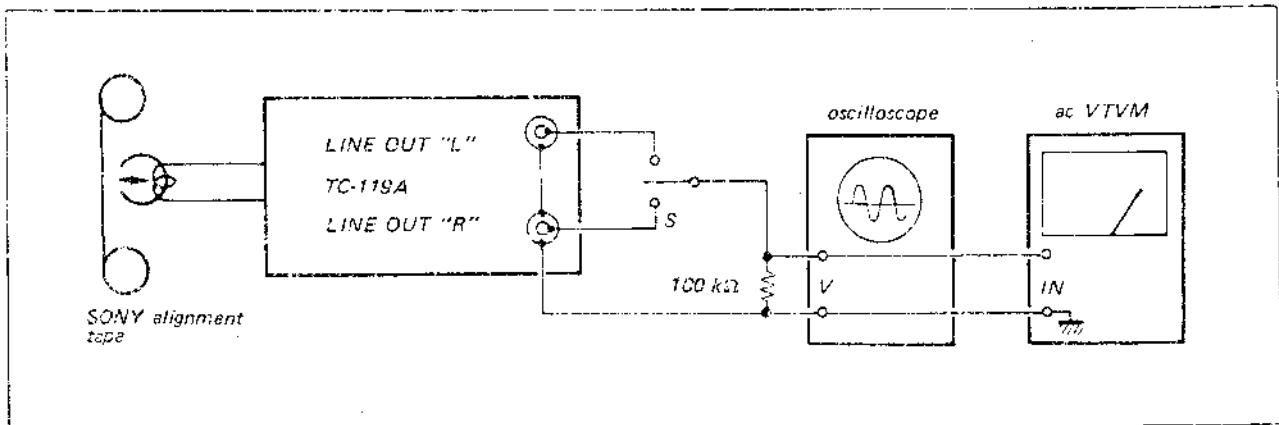

Fig. 4-3. Head-azimuth adjustment and playback-level adjustment test setup
1. With the equipment connected as shown in Fig. 4-3, play back the SONY alignment tape P-4-AS1.
1. With the equipment connected as shown in Fig. 4-3, play back the SONY alignment tape P-4-L81.